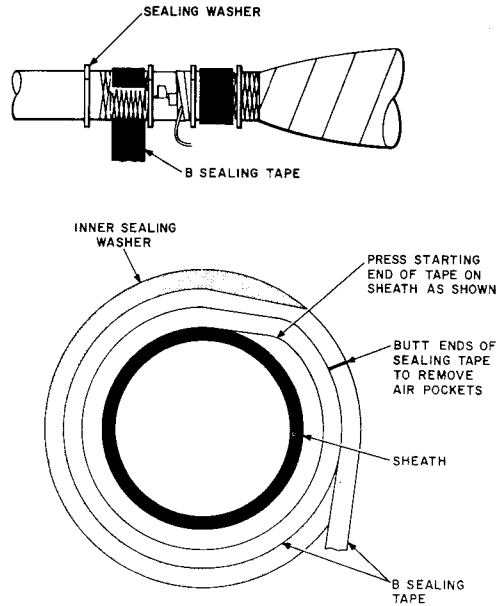

Fig. 15—Placing B Sealing Tape
**3.23** Remove the splice case and check the position of the washers on either side of the inner sheath clamp with the marks on the cable jacket. See Caution below. Build up collars of B sealing tape on the inner and outer jacket adjacent to the washers, equal to or slightly larger than the washers. Butt all joints between sealing tape strips (Fig. 15).